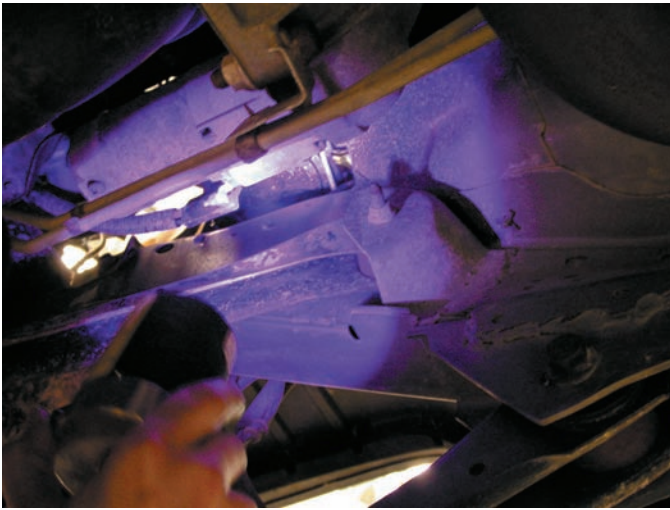

FIGURE 22-5 Using a black light to spot leaks after adding dye to the oil.
- STEP 3** Fluorescent dye can be added to the engine oil. Add about 1/2 oz (15 cc) of dye per 5 quarts of engine oil. Start the engine and allow it to run about 10 minutes to thoroughly mix the dye throughout the engine. A black light can then be shown around every suspected oil leak location. The black light will easily show all oil leak cations because the dye will show as a bright yellow/green area. ● **SEE FIGURE 22-5.**